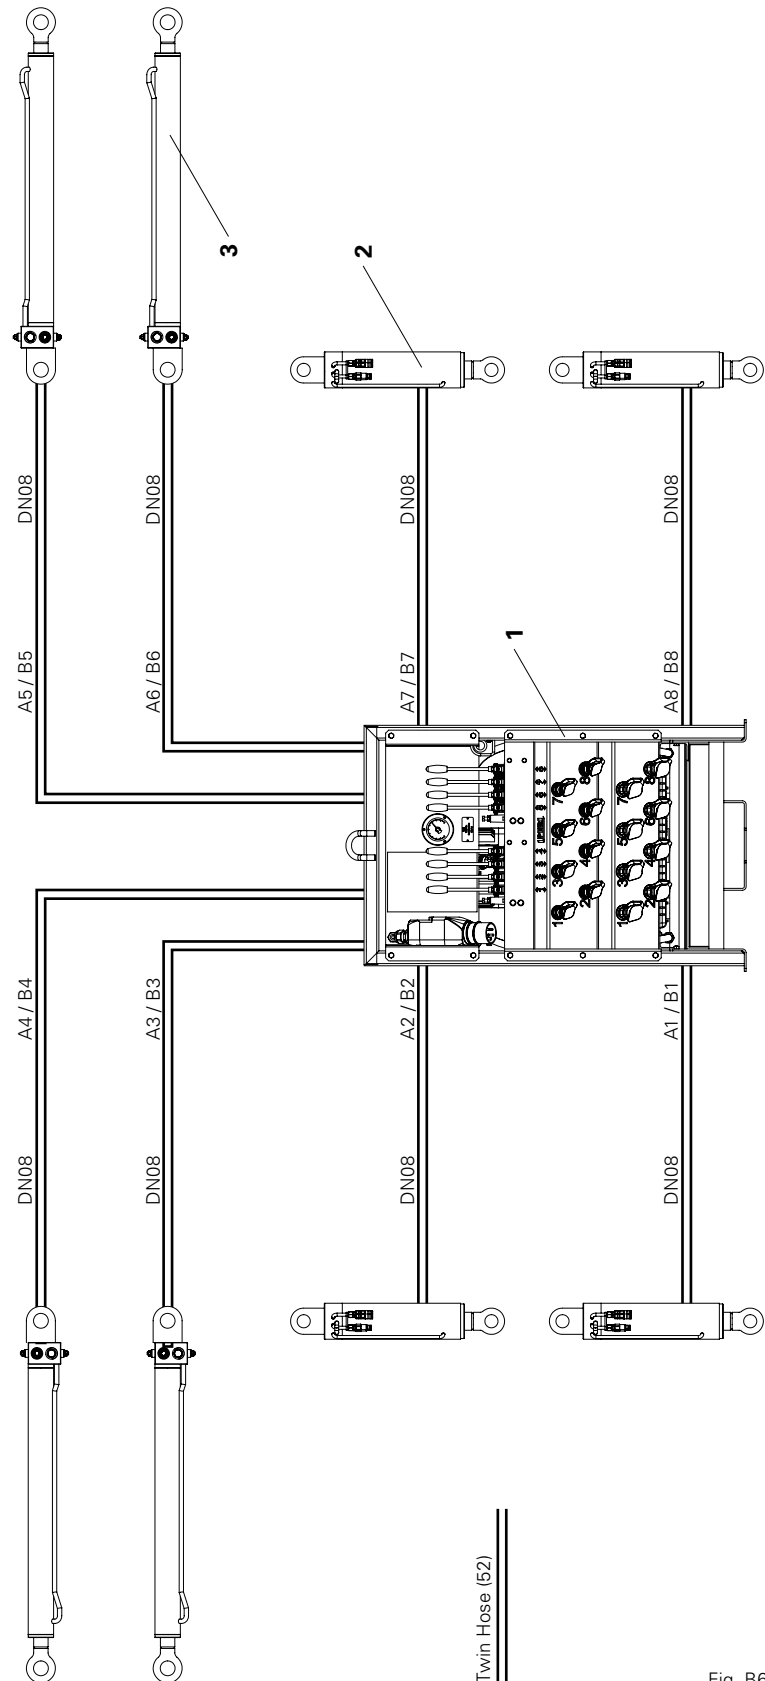

Fig. B6.05
- 2. Connect the hydraulic cylinder (2 + 3) in accordance with Fig. B6.05 to the hydraulic pump (1).